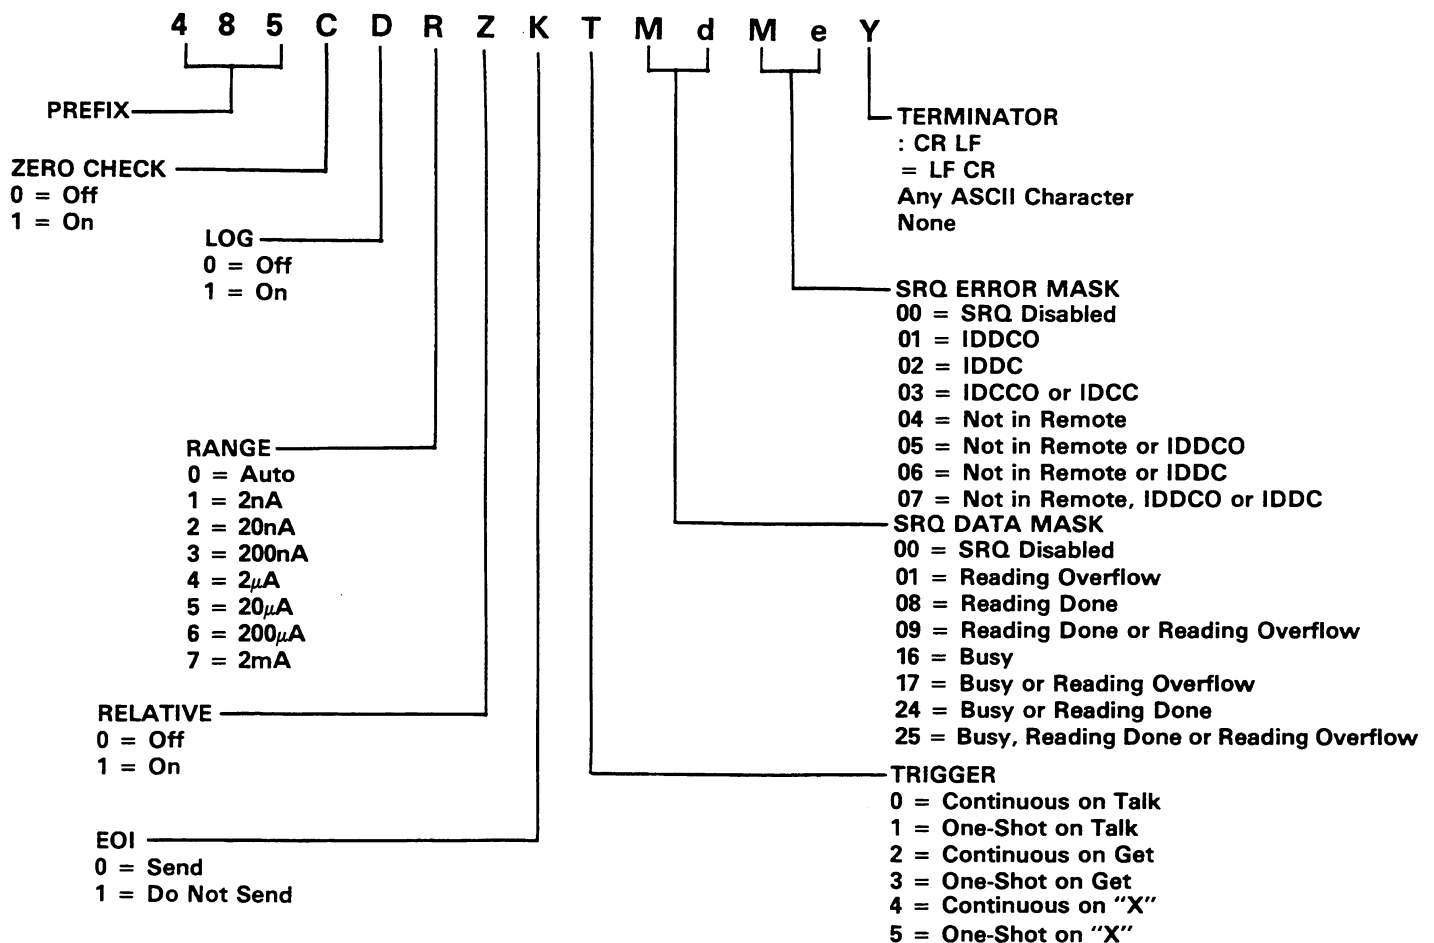

Figure 3-7. General Format U0 Command
After entering the program, press the HP-85 run key. The U0 status word will then be displayed. The Me bytes (see Figure 3-7) will contain "01" indicating that the Model 485 is now programmed to SRQ on an IDDCO.
Figure 3-7 shows the general format for the U0 command. The letters in the U0 format correspond to other device-dependent commands, such as Range (R), LOG (D), etc.